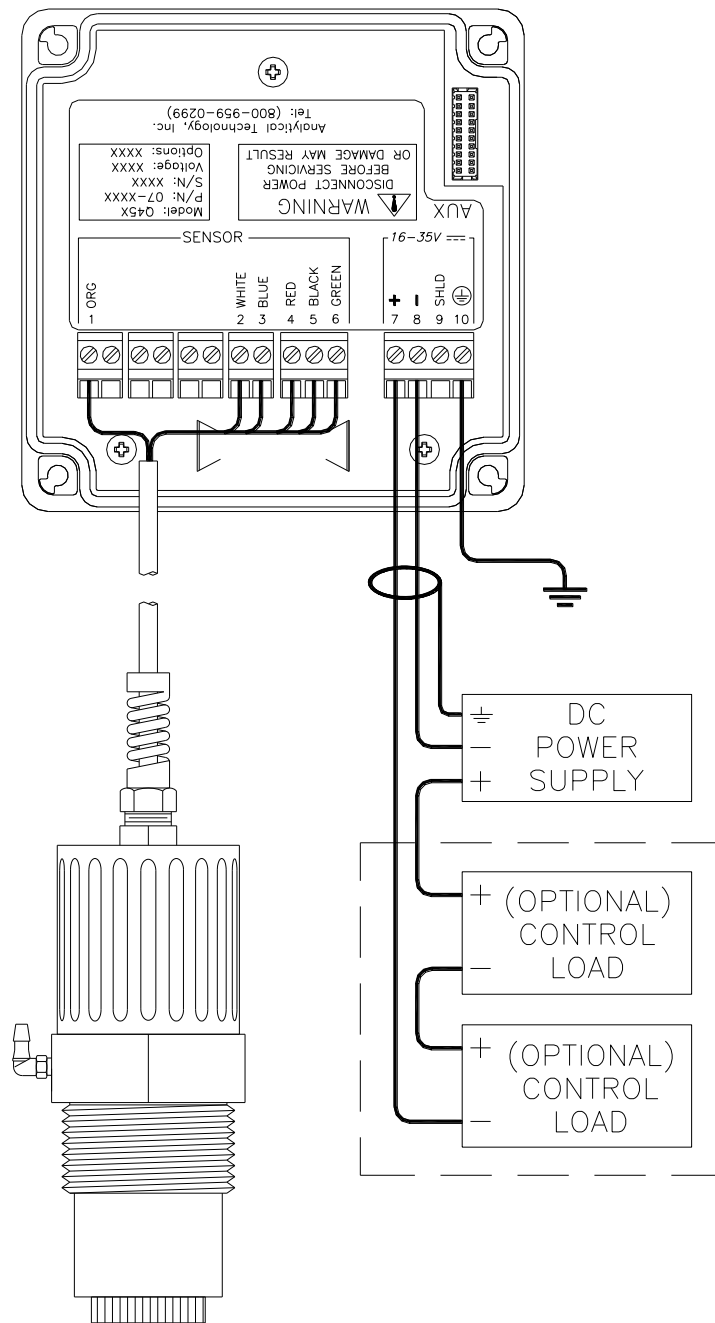

Figure 8 - Loop-Power Connection, Q45 Transmitter
FIGURE 8 - LOOP-POWER CONNECTION, Q45 TRANSMITTER.....	13
1. Use wiring practices that conform to all national, state and local electrical codes. For proper safety as well as stable measuring performance, it is important that the earth ground connection be made to a solid ground point from terminal 12 (Figure 8).
In the two-wire configuration, a separate DC power supply must be used to power the instrument. The exact connection of this power supply is dependent on the control system into which the instrument will connect. See Figure 8 for further details. Any twisted pair shielded cable can be used for connection of the instrument to the power supply. Route signal cable away from AC power lines, adjustable frequency drives, motors, or other noisy electrical signal lines. Do not run sensor or signal cables in conduit that contains AC power lines or motor leads.
Sensor connections are made in accordance with Figure 8. The sensor cable can be routed into the enclosure through one of cord-grips supplied with the unit. Routing sensor wiring through conduit is only recommended if a junction box is to be used. Some loose cable is needed near the installation point so that the sensor can be inserted and removed easily from the flowcell.